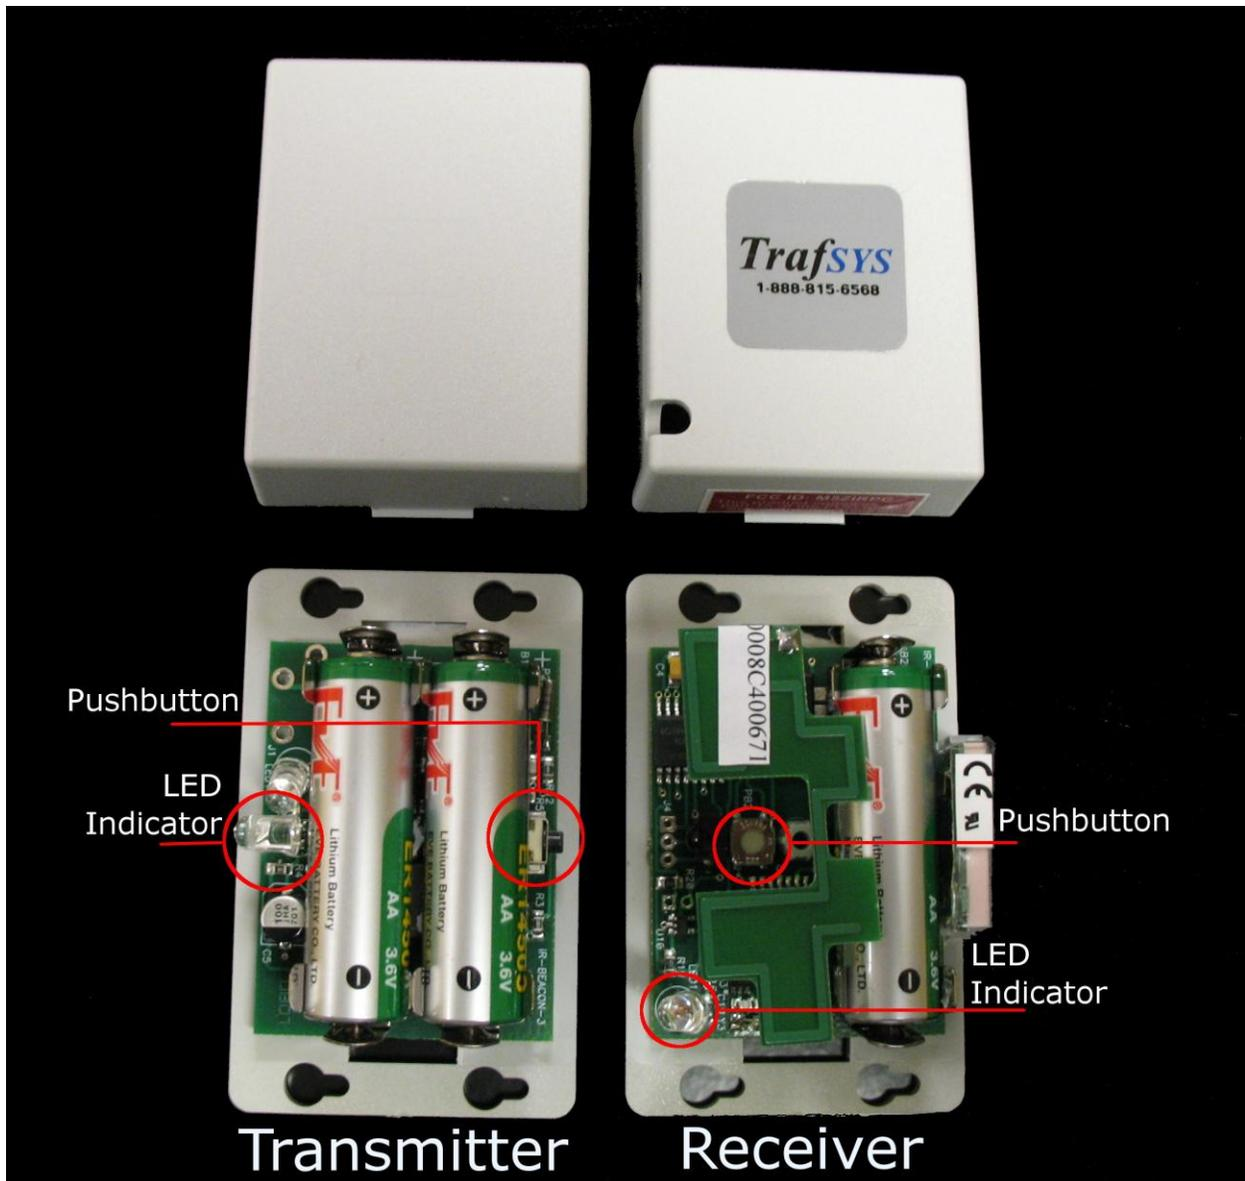

Figure 4: Trafosys Side Firing Wireless Beams
- Ensure that the batteries are oriented in the correct direction. (*Refer to Figure 4*)